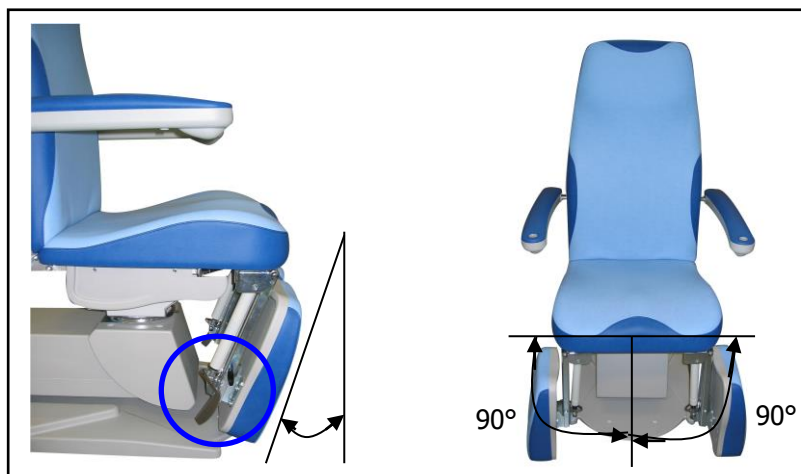

Figure 2.10
**Height:** To adjust the leg rest operate release the lever (fig 2.10) toward the arrow and simply pull the leg rest highly. For lowering you operate the release lever again toward the arrow. By pressure lower the leg rest release the lever as soon as the desired position of the leg rest is reached.
**Sideways:** In order to adjust the leg rest up to 90° sideways, just push the leg rest outward or back (figure 2.10). The leg rest turned outward facilitate the accessibility of the inside of the foot. It is easy to enter the chair for older and shorter people.